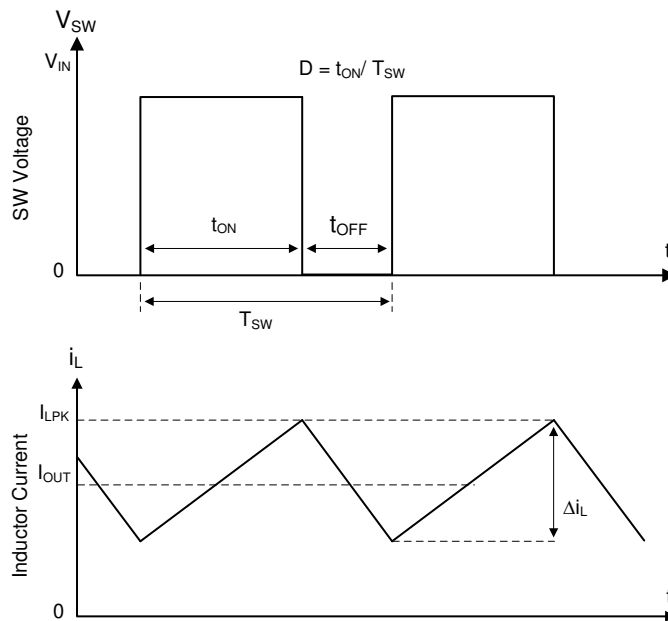

Figure 6-1. SW Node and Inductor Current Waveforms in Continuous Conduction Mode (CCM)
The following operation description of the TPSM84338 refers to the functional block diagram and to the waveforms in Figure 6-1. The TPSM84338 is a synchronous buck converter with integrated high-side (HS) and low-side (LS) MOSFETs (synchronous rectifier). The TPSM84338 supplies a regulated output voltage by turning on the HS and LS NMOS switches with controlled duty cycle. During high-side switch on time, the SW pin voltage swings up to approximately VIN, and the inductor current, iL, increases with linear slope (VIN – VOUT) / L. When the HS switch is turned off by the control logic, the LS switch is turned on after an anti-shoot-through dead time. Inductor current discharges through the low-side switch with a slope of –VOUT / L. The control parameter of a buck converter is defined as Duty Cycle $D = t_{ON} / t_{SW}$, where t_{ON} is the high-side switch on time and t_{SW} is the switching period. The converter control loop maintains a constant output voltage by adjusting the duty cycle D. In an ideal buck converter where losses are ignored, D is proportional to the output voltage and inversely proportional to the input voltage: $D = V_{OUT} / V_{IN}$.